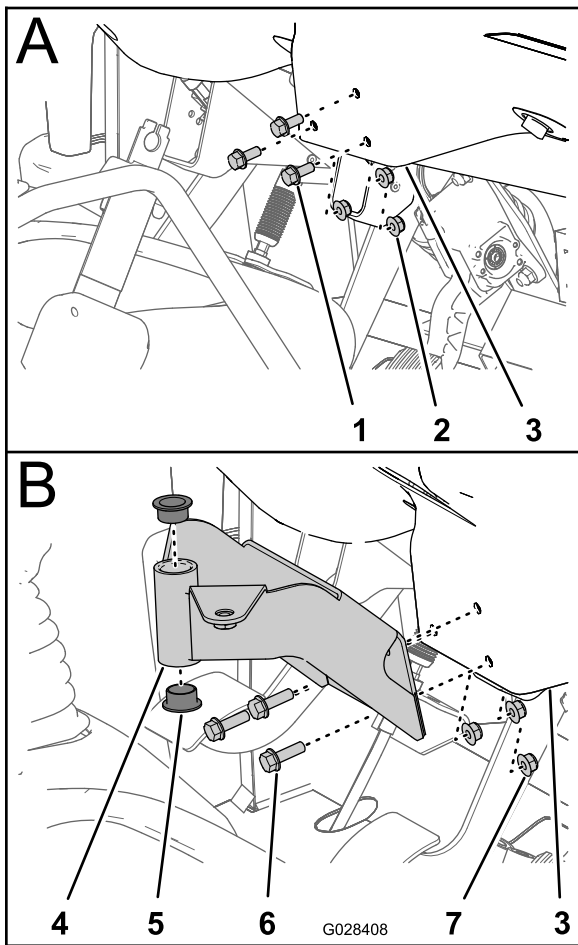

Figure 17
1. Remove the 3 bolts and 3 nuts that secure the lower-center portion of the dash panel to the dash support bracket (Figure 17).
- Align the holes in the mounting bracket for the control console with the holes in the dash and support bracket (Figure 17).
- Torque the nuts and bolts to (Figure 17).
- Insert the 2 plastic bushings into the mounting bracket (Figure 17).